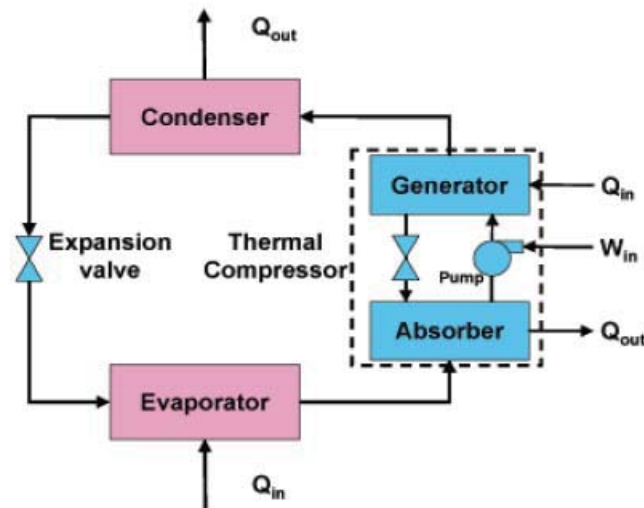

Figure A1-8 Process Schematic of an Absorption Chiller/Refrigeration System
- A process schematic of an absorption chiller is shown in Figure A1-8